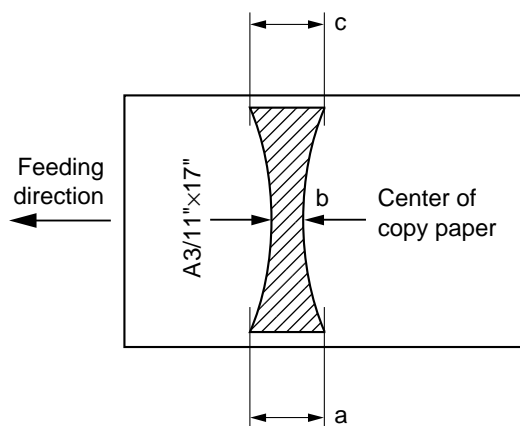

Figure 11-251
- Paper will be picked up from the multifeeder and delivered, enabling measurements as in Figure 11-251.